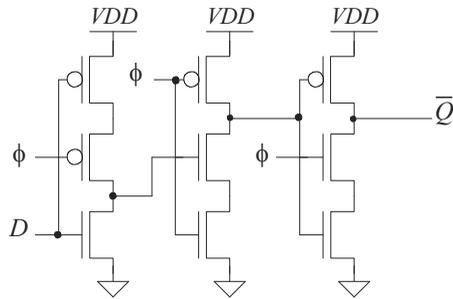

Figure 14.20 A true-single phase clocked FF, see Problem 14.15.
- 14.15 Show that the dynamic circuit shown in Fig. 14.20 is an edge-triggered flip-flop [2]. Note that a single-phase clock signal is used.